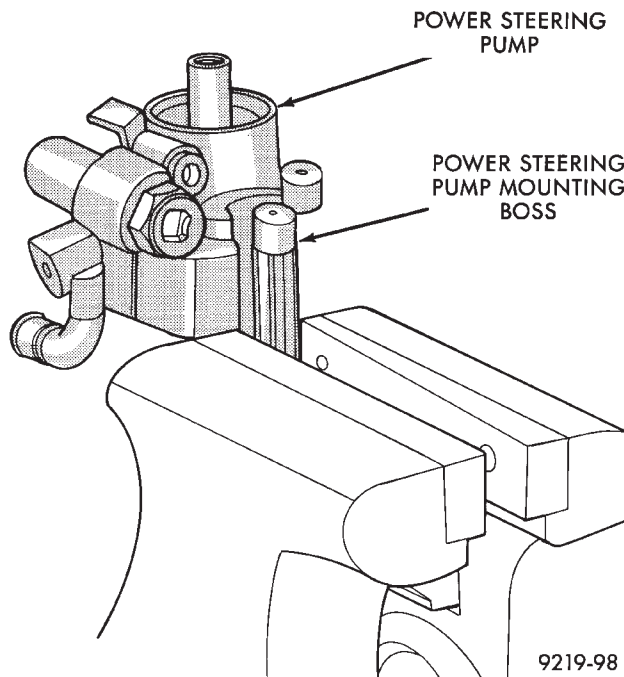

Fig. 1 Power Steering Pump Mounted In Vise
(1) Mount power steering pump assembly in a vise using one of the pump mounting bosses (Fig. 1). **Do not clamp the body of the power steering pump in vise.**